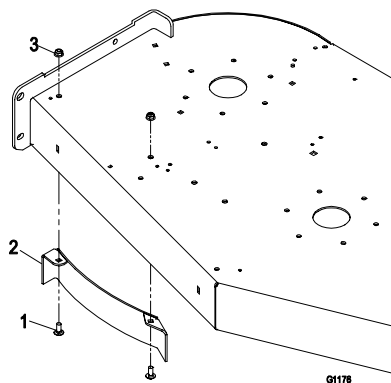

Figure 10
1. Remove the fasteners in the deck as shown in Figure 10. Retain for reuse if the discharge baffle is removed.
2. Install the 52” discharge baffle as shown in Figure 10.